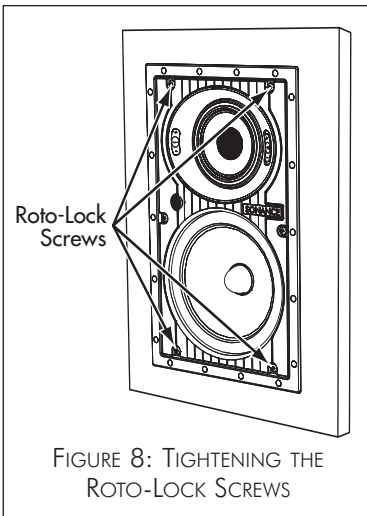

FIGURE 8: TIGHTENING THE ROTO-LOCK SCREWS
5. Tighten the four screws on the front of the speaker baffle. The Roto-Lock clamps will automatically rotate into position and begin clamping the speaker (Figure 8).